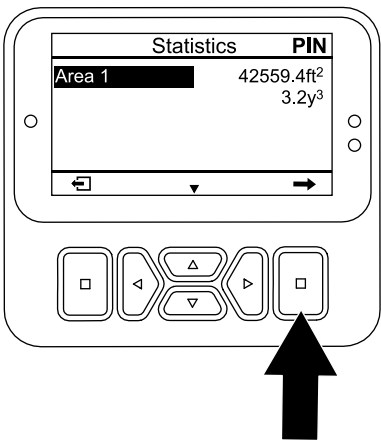

Figure 98
- 1. In the STATISTICS screen, press the down button until the AREA 1 option is selected (Figure 98).